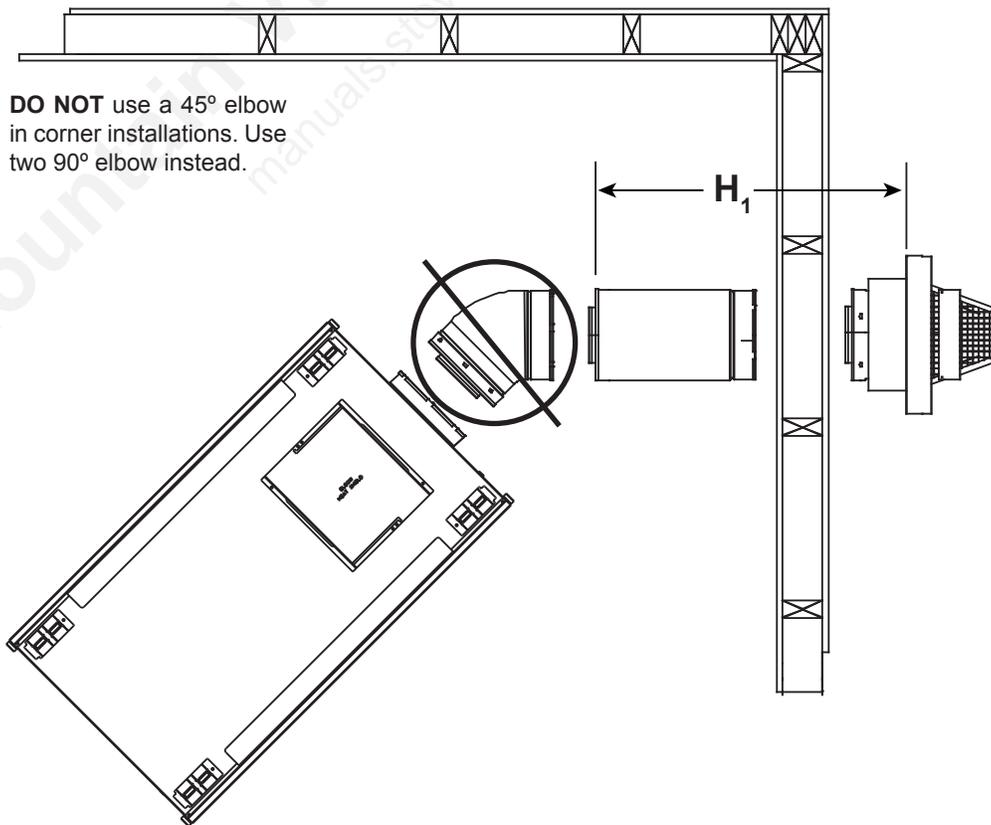

Figure 7.14
**Note:** Reference Figure 7.14 for special instructions for use of 45° elbow on rear vent appliances.